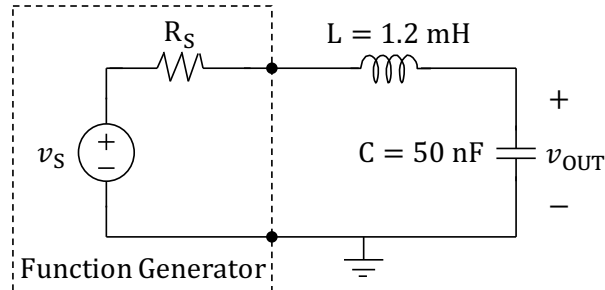

Fig. 2. Function generator with inductor and capacitor connected at its output, forming a driven series RLC circuit.
- (c) **Assemble Circuit.** Using a proto-board assemble the driven series RLC circuit shown in Fig. 2. Connect oscilloscope probe so that channel 1 measures the voltage v_{OUT} across the capacitor.